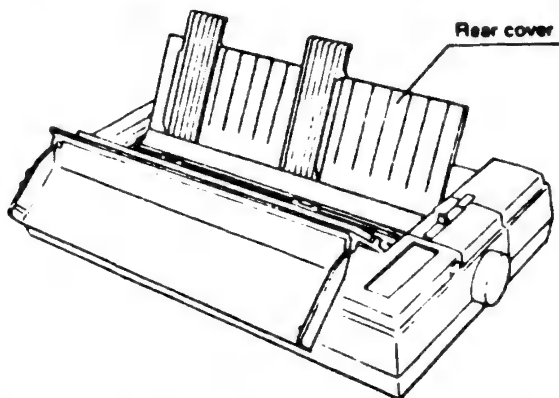

Figure 2-11 Setting the Rear Cover
2. Lift the Rear Cover to the vertical position and move the Guides (on the Rear Cover) to help align the paper to the desired position, see Figure 2-11.